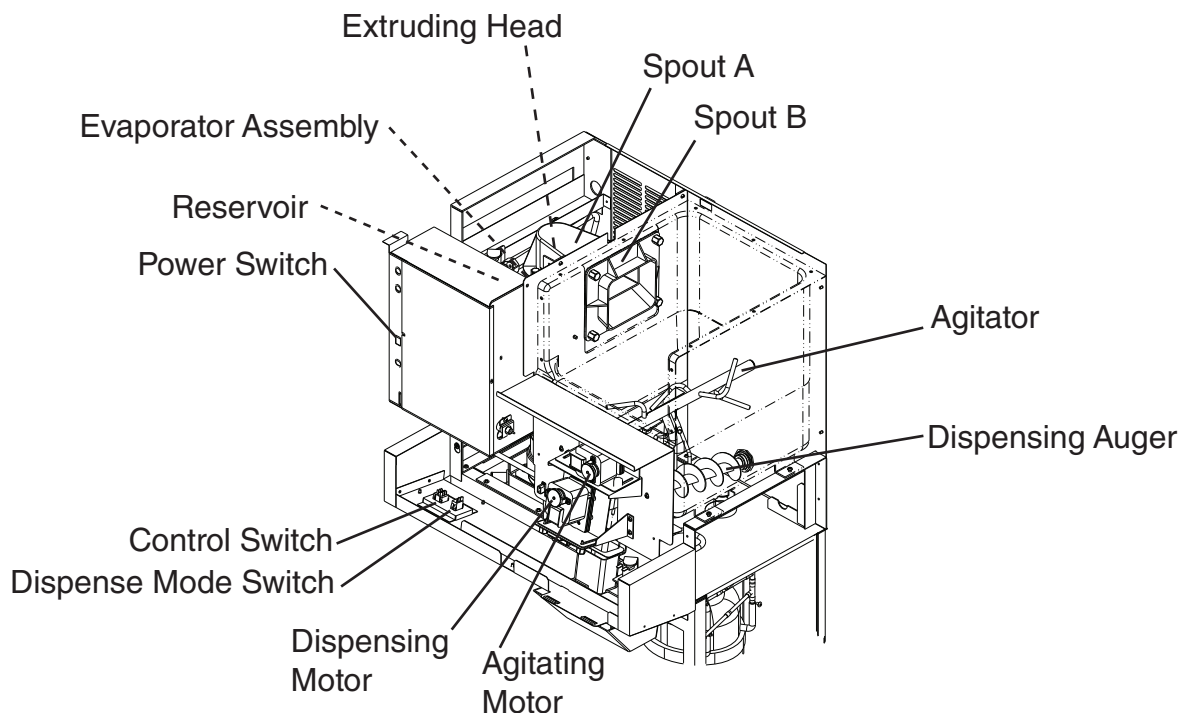

Fig. 6
- 5) Remove the front cover of the storage bin. Remove spout B, then remove spout A. See Fig. 6.
- 4) Remove the motor bracket thumbscrews, first from the vertical plane and then from the horizontal plane. While holding on to the corresponding agitator or auger, move the agitating motor or the dispensing motor towards you. Remove the agitator and the dispensing auger from the storage bin. See Fig. 6.